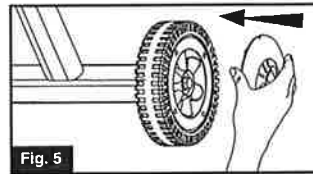

Fig. 5
- Press one hub cap into each wheel (Fig. 5)